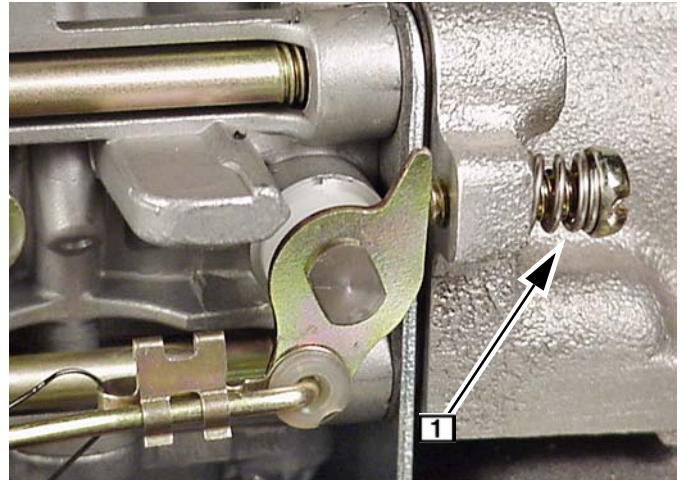

Fig. 188
2. Hold throttle lever against idle speed screw **1** and temporarily adjust idle to 1200 RPM, Fig. 188.